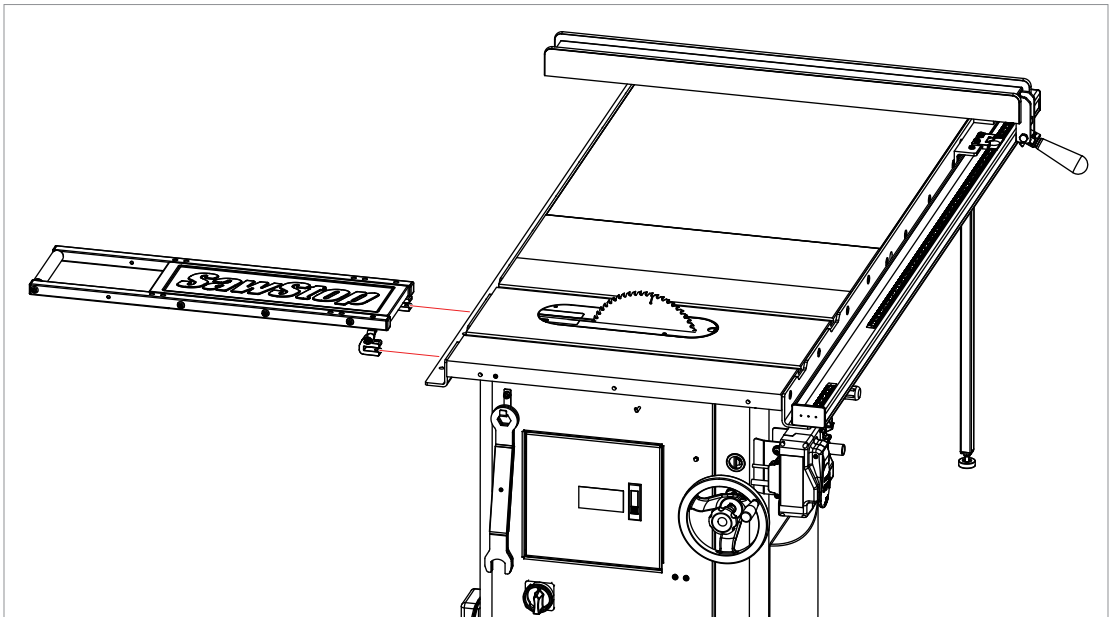

Fig. 40
- 9 Slide the two rear rail clamps onto the rear rail of the table saw, and use a 5mm hex L-wrench to tighten the M10 x 20 set screws against the rear rail (Fig. 40 on page 39).